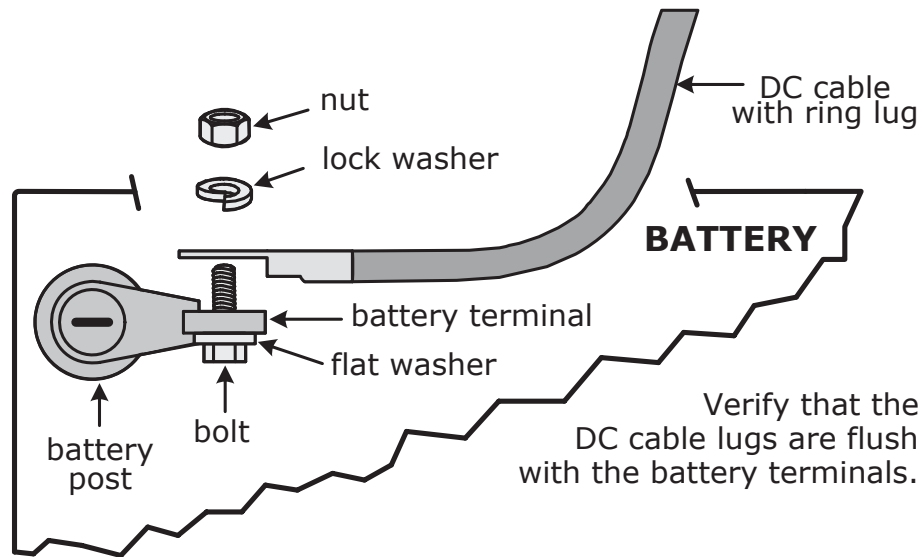
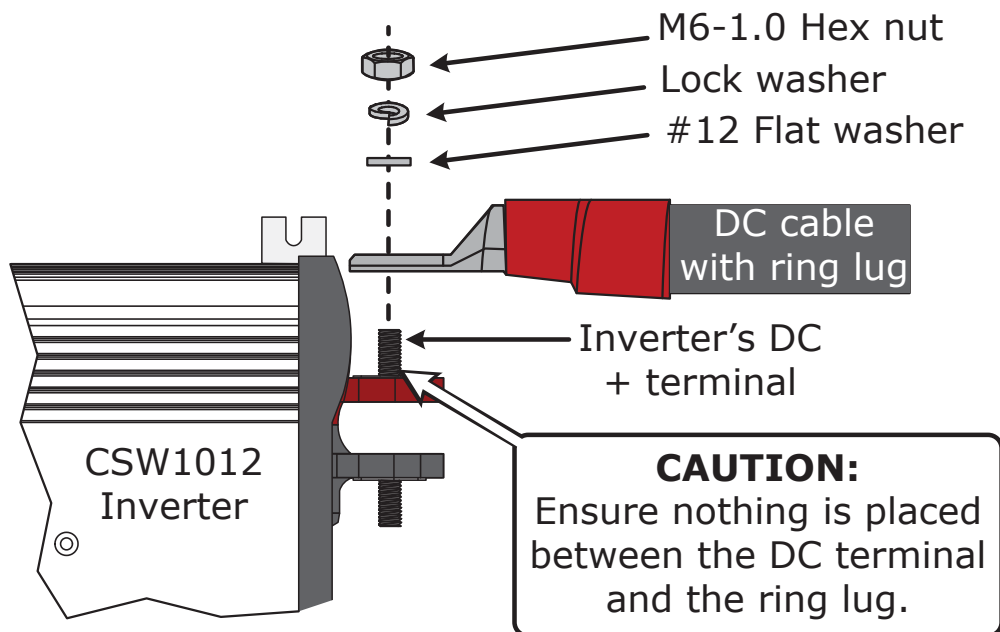

Figure 2-4, DC Cable to Battery Terminals
Figure 2-5, DC Cable to Inverter's DC Terminals
Refer to Figure 2-4 when connecting the DC wires to the battery, and to Figure 2-5 when connecting to the inverter. Also, consider the following requirements to ensure maximum performance:
Do not put anything between the battery cable ring lug and the battery post (see Figure 2-4), or the flat metal part of the inverter's DC terminal (see Figure 2-5). When connecting the battery cable, it should be placed directly against the battery post or inverter terminal. Incorrectly installed hardware causes a high resistance connection which could lead to poor inverter performance, and may melt the cable and terminal connections.
5. Ensure the DC wire connections (on the batteries, inverter, and DC circuit breaker/fuse lugs) are flush on the surface of the DC terminals, and the hardware (washer(s) and nut) used to hold these connections are stacked correctly (see Figures 2-4 and 2-5). Verify all DC connections on the inverter are torqued from 79 to 96 lbf-in (8.9 to 10.9 N-m).